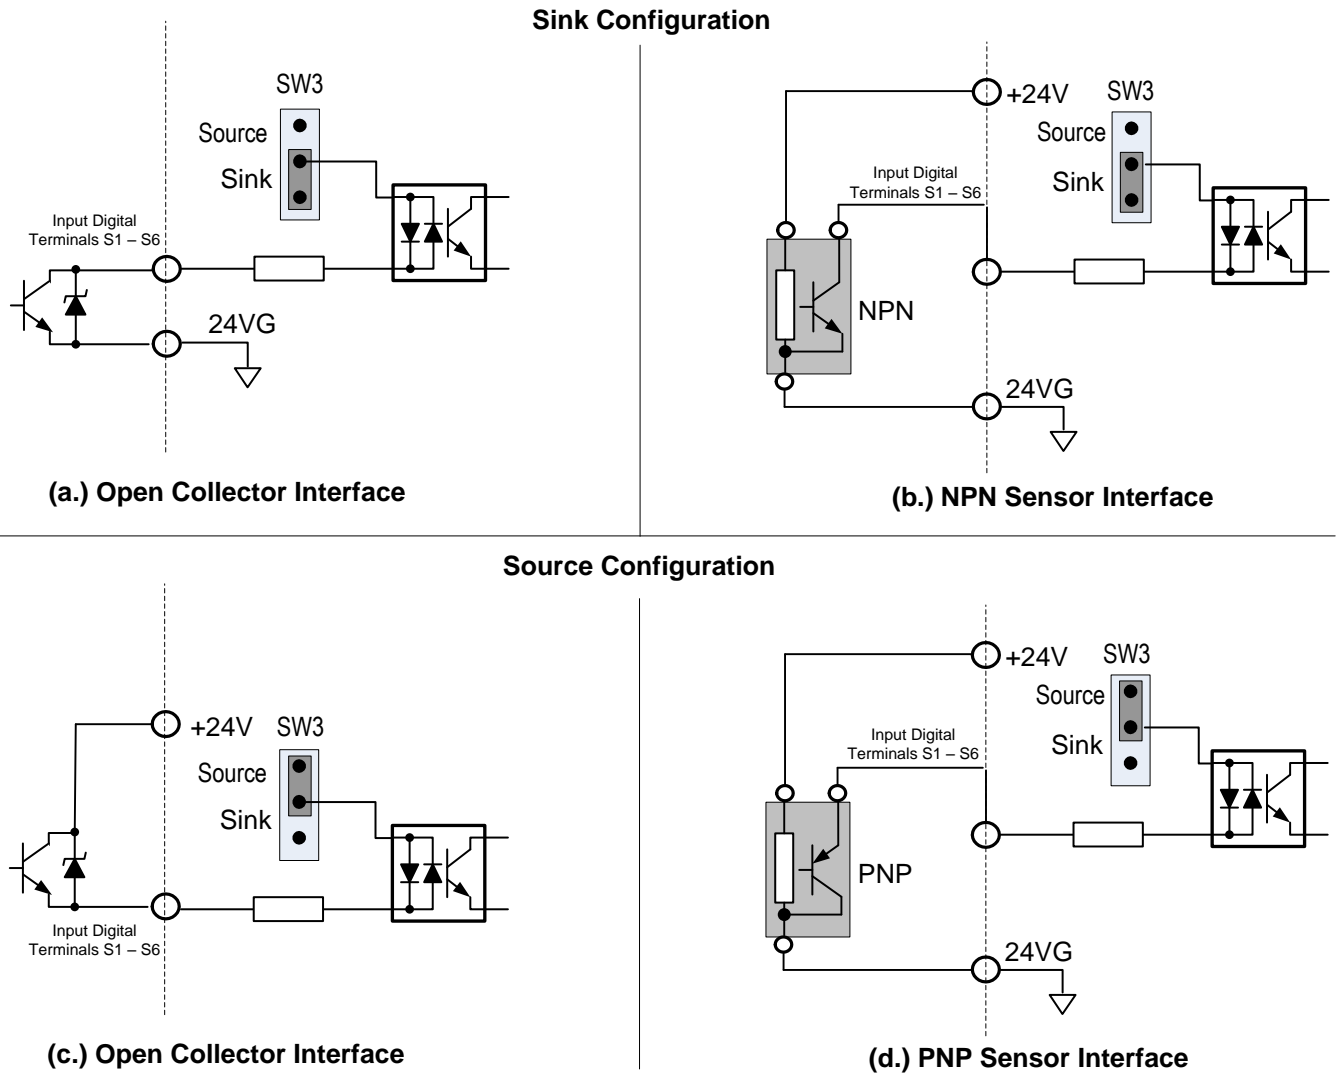

Fig. 3.17.2 Sink / Source Configurations
- (4) In Section 3.8 the control boards referenced have a jumper SW3 that can select the digital input to terminals ① - ③ to be set for SINK or SOURCE. The following Fig. 3.17.2 (a.) – (d.) shows examples for the various SINK / Source interfaces.